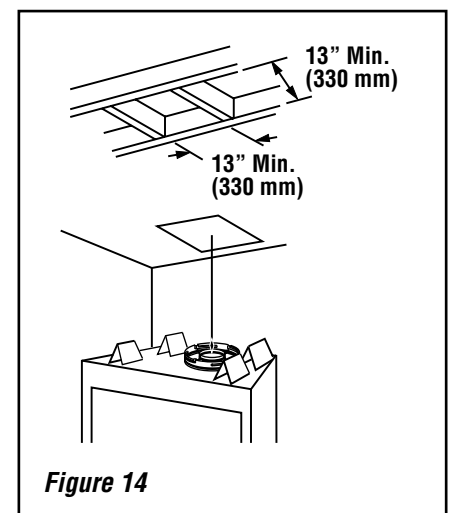

Figure 14
A. Frame ceiling opening - Use a plumb line from the ceiling above the appliance to locate center of the vertical run. Cut and/or frame an opening, 13" x 13" (330 mm x 330 mm) inside dimensions, about this center mark (**Figure 14**).
C. Frame ceiling opening - If the vertical route is to penetrate a ceiling, use plumb line to locate the center above the appliance. Cut and/or frame an opening, 13" x 13" (330 mm x 330 mm) inside dimensions, about this center (refer to **Figure 14 on Page 11**).